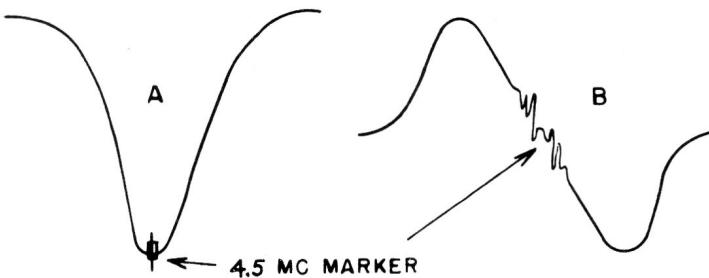

Fig. 23. Audio I-F Curve
2. Transformer T401 is adjusted for maximum amplitude and symmetry of the response curve about 4.5 mc marker (Figure 23-A).
3. The secondary of T402 is adjusted for curve, Figure 23-B. This adjustment should give as straight a slope as possible between the positive and negative peaks with the center of the 4.5 mc marker falling midway between the peaks.